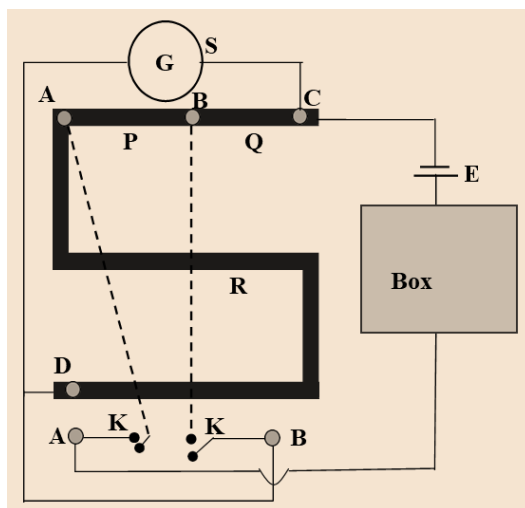

Figure 1
2. Theory: A post office box is a compact form of the Wheatstone's bridge. In the instrument each of the arms AB & BC contains three of 10, 100 and 1000 Ω respectively as shown in Fig.1.
- (i). Make connections as in Fig.1.